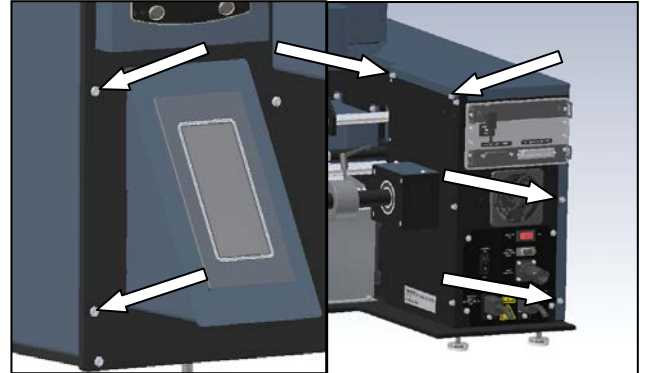

Figure 3-119. Frame Cover Screws
1. Remove the six screws holding the Frame Cover, set screws and Frame Cover aside (Figure 3-119).